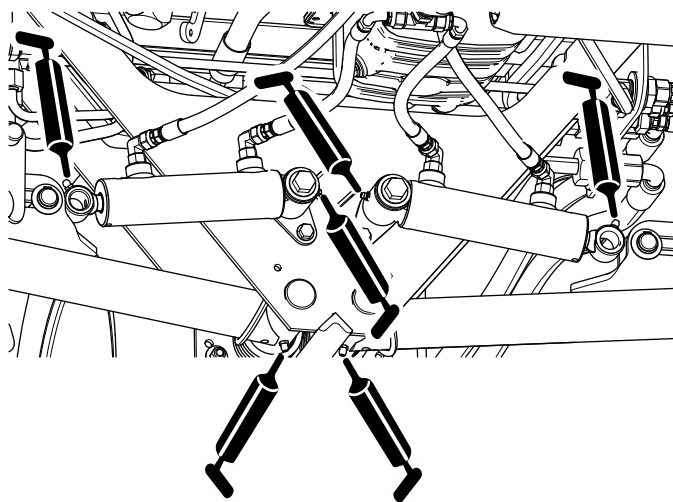

Figure 56
- Rear lift-arm pivots and lift cylinders (3 each side); refer to Figure 56.